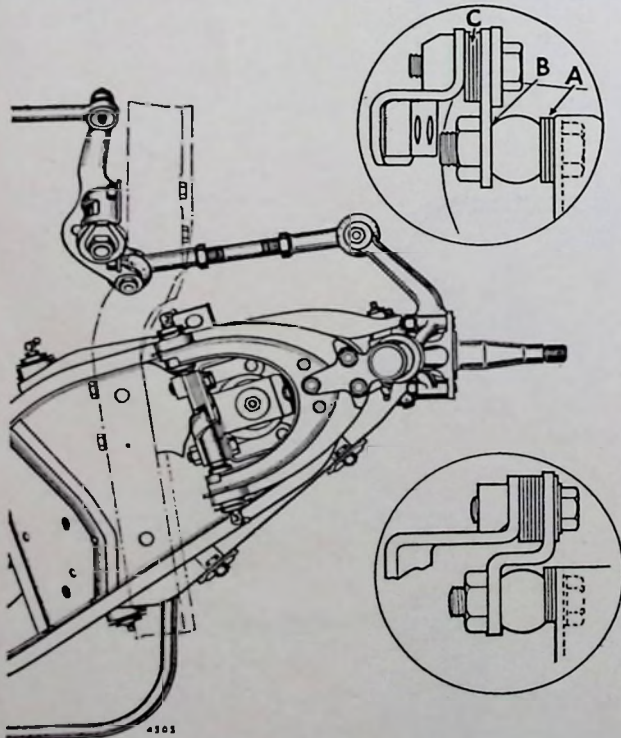

FIG. 5.—Plan view of the front suspension showing camber shim positions.
1. On Series I and early Series II cars having cranked top bracket as shown in Fig. 5 bottom inset.
If shims are removed from between the upper fulcrum pin (32) and crossmember, these shims should be fitted between the frame bracket (35) and the frame. (See Fig. 5 inset.)
2. On Series II and any Series I and II later cars having flat top bracket as shown in Fig. 5 top inset.
To increase the camber angle move the required number of shims from position (A) to position (B). (See Fig. 5 top inset.)